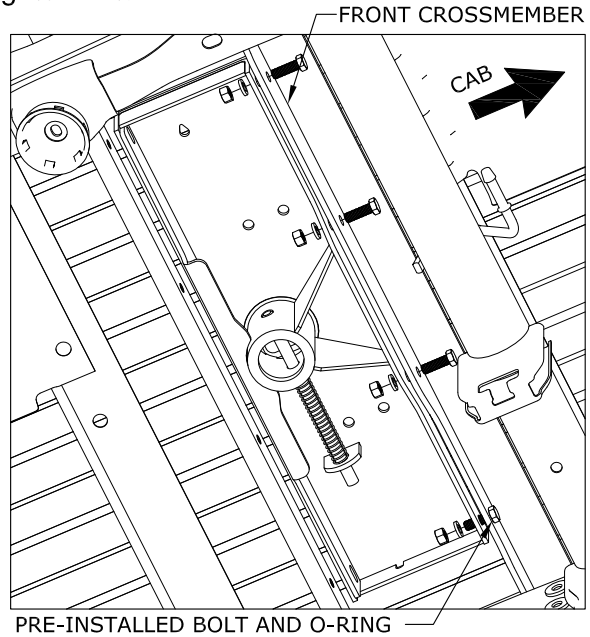

FIGURE B10: View under the center section looking from in front of the axle on the passenger side.
- 5. Attach the front cross member to the center.** Slide the front cross member back against the center section so that the bolt installed previously in the front cross member goes into the center section hole directly across from it. Line up the rest of the holes and attach the two members with  $\frac{1}{2}$  X  $1\frac{1}{2}$ " long bolts, lock washers, and nuts as shown in figure B10. Hand tighten nuts.